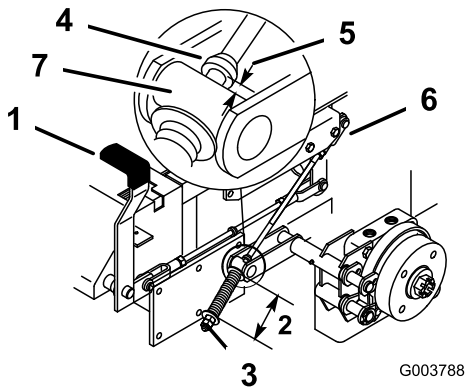

Figure 29
The measurement should be 70 mm (2-3/4 inch) between washers (Figure 29).
3. If adjustment is necessary, loosen the jam nut below the spring and tighten the nut directly below the yoke (Figure 29). Turn the nut until the correct measurement is obtained. Tighten the two nuts together and repeat on opposite side of unit.
6. Measure the distance between the trunnion roller and the collar on brake rod. The measurement should be 5–7 mm (3/16–1/4 inch) (Figure 29).
the correct measurement is obtained (Figure 29). Tighten jam nut at the yoke.